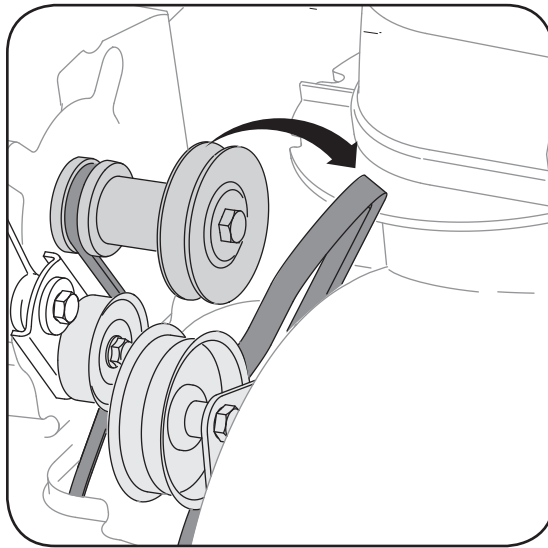

Figure 23
1. Roll auger belt off the pulley as shown in Figure 23.